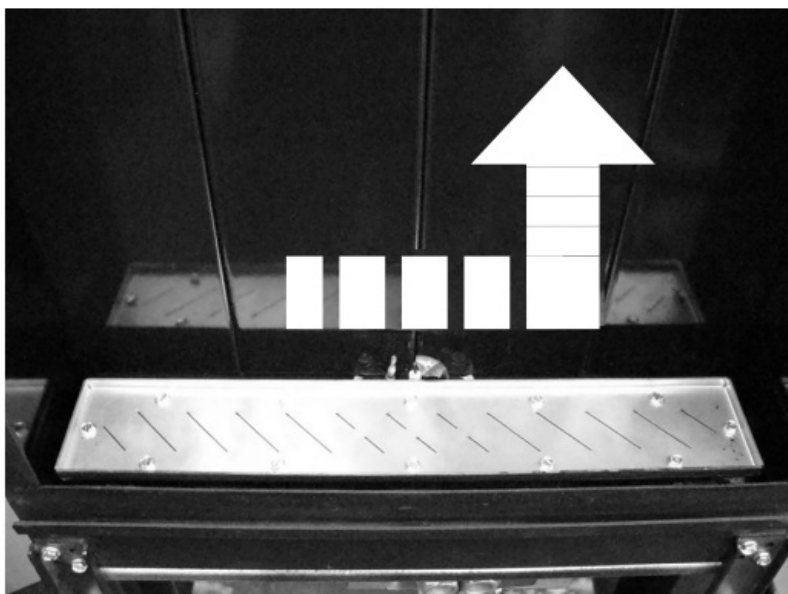

Figure 6
6. To remove the burner from the fireplace, slide the entire assembly to the right before lifting up to remove as shown in Figure 6.